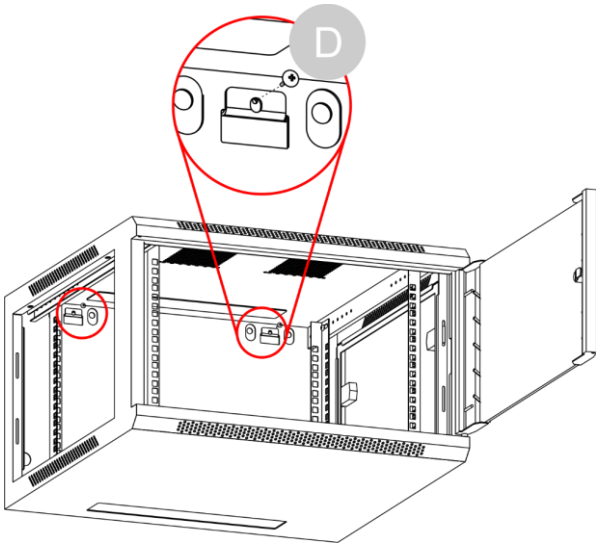

Fig. 22
- 08) Open the door of the cabinet and put the 2 **safety screws (D)** into the holes, as shown in Fig. 22.